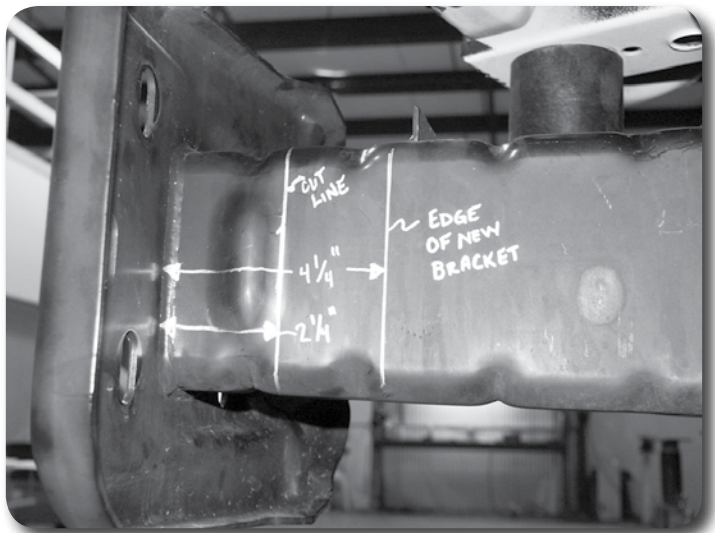

Figure 24
60. Carefully measure from the back surface of the factory bumper mounts on the frame rail  $2\frac{1}{4}$ " and mark. Do this in several places all around each side of the frame rail. Carefully connect these points to form a straight, continuous cut line around the entire frame rail **Figure 24**. For reference, this cut line should be located just behind a bulge in the frame rail.
61. Carefully measure again from the back surface of the factory bumper mounts on the vertical faces of the frame rail  $4\frac{1}{4}$ " and mark. Do this in multiple locations and connect the points to form two reference lines on the vertical frame rail surfaces **Figure 24**. These lines will aid in positioning the new provided bumper brackets.